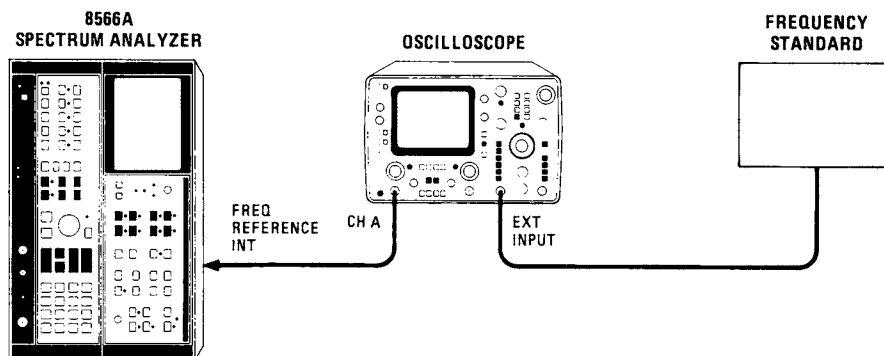

Figure 5-38. 10 MHz Standard Adjustment Setup
1. Position instrument on right side as shown in Figure 5-38 and remove bottom cover.